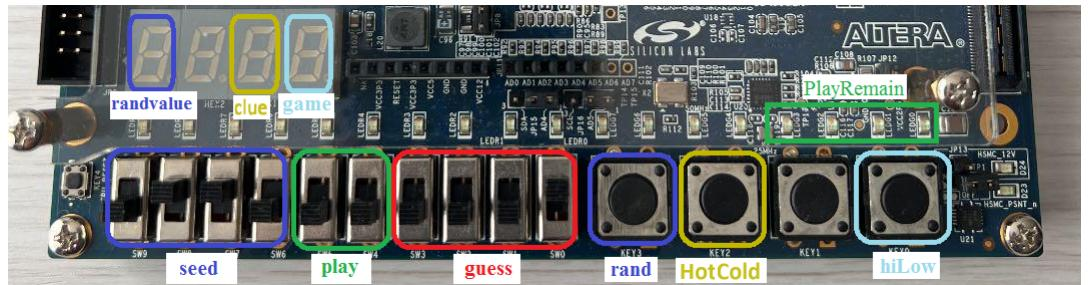

Figure 5.1: The input and output you should use to realize your digital system.
The user input and output, shown in Figure 5.1 are the same as last week's assignment with the exception of the **hotCold** button and **clue** 7-segment display.
- 3) The input signals are color-coded to correspond to the colors used in Figure 5.1.